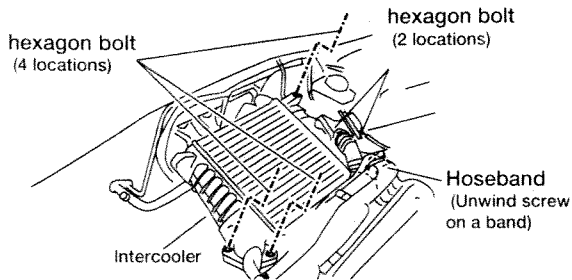

Figure 2-4
9. Remove the intercooler. (Figure 2-4)